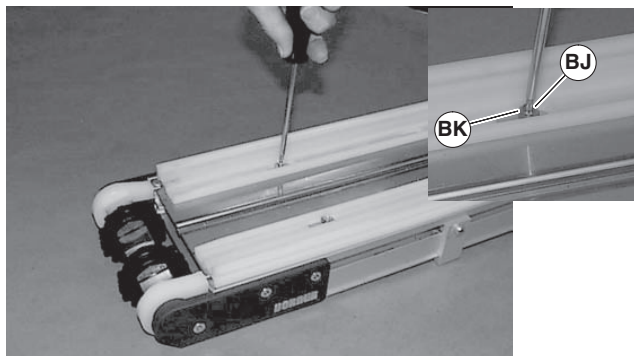

Figure 48
4. Install new wear strip Figure 48, with bushings (BK) and screws (BJ). Tighten screws to 25 in-lb (2.8 N-m).